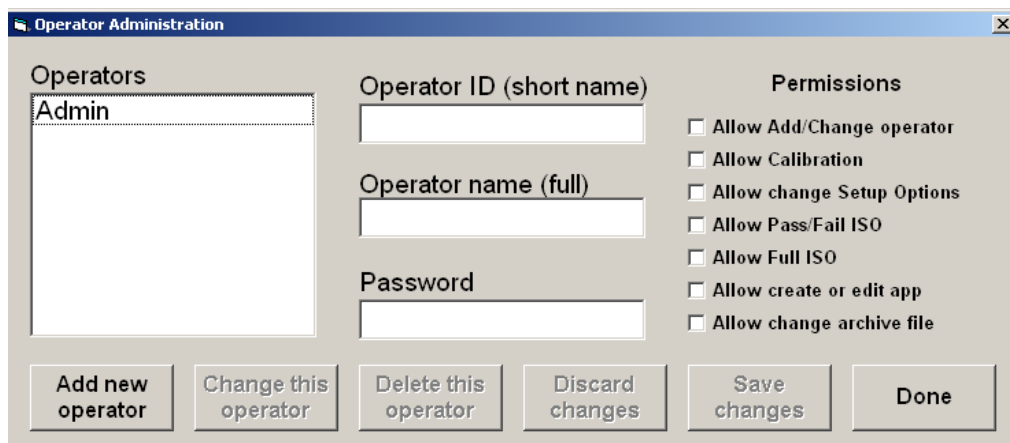

Figure 46: Operator Administration window
2. Click the **Setup** tab and then click the **Setup Operators** button; the **Operator Administration** window appears (Figure 46).